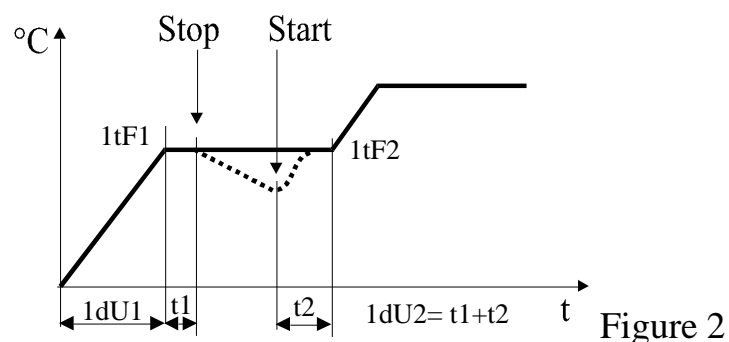

Figure 2
- 3 with “Ramp/Exit” + “Enter” keys press together: the instrument controls on suspended ramp (see fig. 2). A ramp is considered finished if the temperature is within $\pm 3^\circ$ of the final programmed temperature.